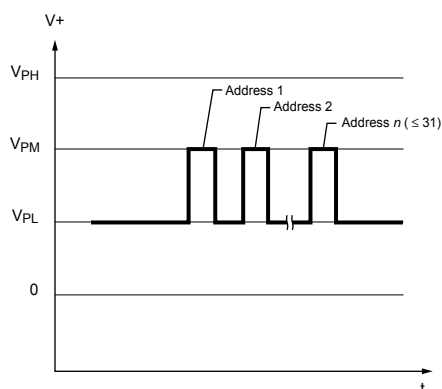

Figure 8. Pulse sequence to select addresses
**Address Selection.** After addressing mode is enabled, the target bitfield address, is indicated by a series of  $V_{PM}$  pulses, as shown in figure 8.